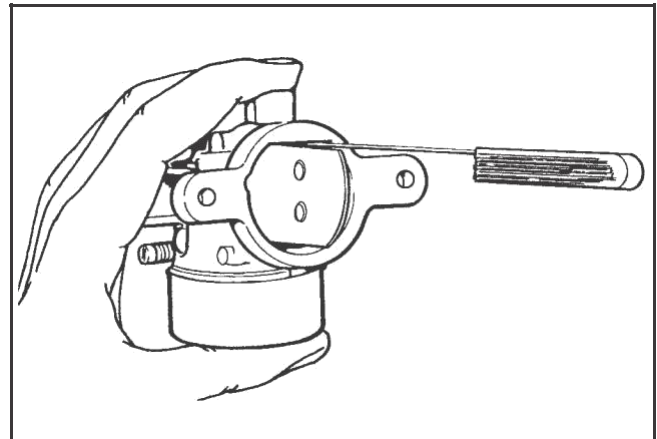

Figure 5-17. Measuring Clearance (Air Cleaner Removed For Clarity).
4. Loosely attach the choke plate to the choke shaft using the two screws provided in the choke repair kit. Apply Loctite® No. 609 to the threads of the choke plate retaining screws. Secure these screws ONLY after the choke plate is properly aligned in the choke plate bore. To align choke plate, insert a 0.010 in. shim between the top right edge of the choke plate and bore. See Figure 5-17. Then while pushing down on the top of the choke shaft, tighten screws securely.